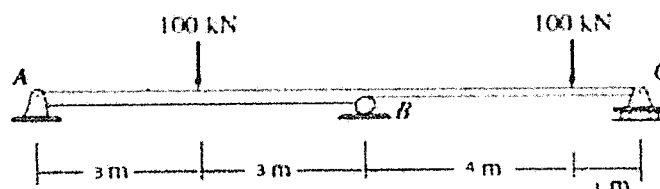

Fig. 2
21. Using Force method, compute the support reactions at all three supports of the beam shown in Fig. 2.